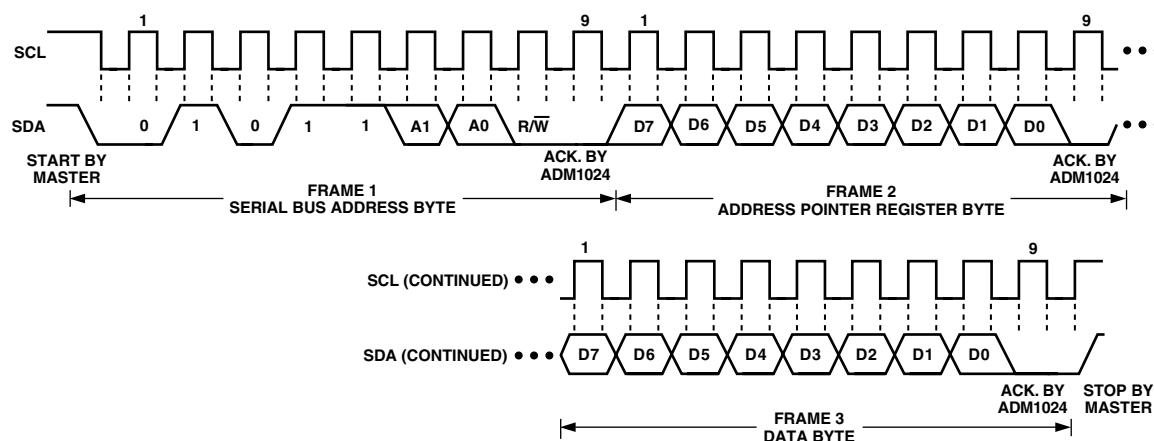

Figure 2a. Writing a Register Address to the Address Pointer Register, then Writing Data to the Selected Register
To write data to one of the device data registers or read data from it, the Address Pointer Register must be set so that the correct data register is addressed, then data can be written into that register or read from it. The first byte of a write operation always contains an address that is stored in the Address Pointer Register. If data is to be written to the device, the write operation contains a second data byte that is written to the register selected by the address pointer register. This is illustrated in Figure 2a. The device address is sent over the bus followed by R/\overline{W} set to 0. This is followed by two data bytes. The first data byte is the address of the internal data register to be written to, which is stored in the Address Pointer Register. The second data byte is the data to be written to the internal data register.
- In Figures 2a to 2c, the serial bus address is shown as the default value 01011(A1)(A0), where A1 and A0 are set by the three-state ADD pin.